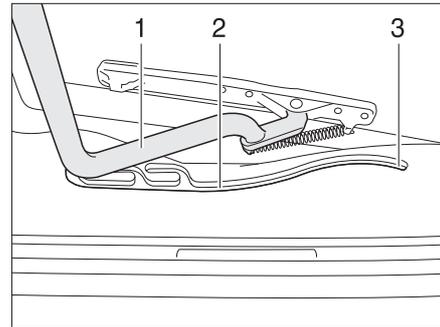

Fig. 45 Heki skylight, guide
- Pull the bar (Fig. 45,1) in the guides (Fig. 45,2) to the rearmost position (Fig. 45,3).
- Use both hands to push the bar (Fig. 45,1) slightly upwards.
- Pull the bar in the guides (Fig. 45,2) to the desired position.